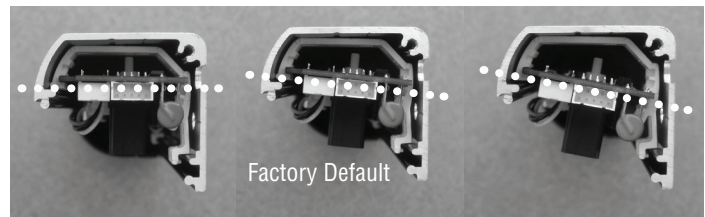

Fig. 8
2. Once the PCB is completely removed from the housing, the sensor's detection angle may be changed. There are two clips per 915AFI and the angle, plastic notch, must match for each clip. The positions are shown below (Fig. 8).